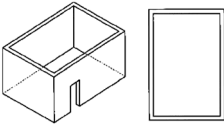

Figure 1 - Enclosure with walls on all sides but no over head cover.
- › An enclosure with walls on all sides, but with no overhead cover. See Figure 1.